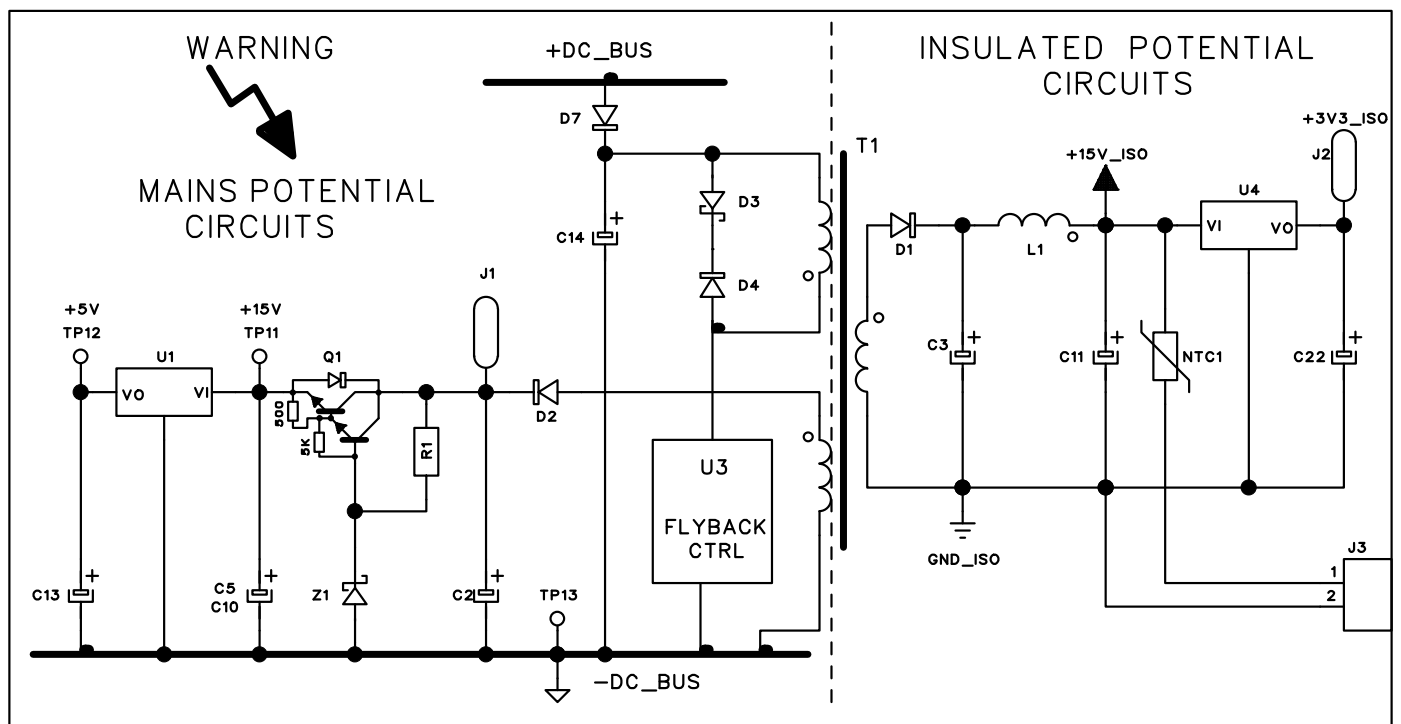

Fig. 2.3.2
These voltages are measurable on the connectors J2, J3 and on the test points J1, TP11, TP12, TP13 on power board (45), as indicated in Fig. 2.3.2.
- ◆ If the voltage remains at +320 Vdc, check the boost converter circuits (U5, U7, Q5, Q6, D11, D12, etc.) and the voltages on TP11 and TP12 of power board (45), as indicated in Fig. 2.3.2 (boost converter power supply circuits).
- ◆ Replace power board (45).
- Power board (45), test points TP11(+), TP12(+) and R32 SHUNT terminal or TP13(-) = voltages as indicated in Fig. 2.3.2 (boost converter circuits power supply).
- Power board (45), connectors J2 and J3 = voltages as indicated in Fig. 2.3.2 (inverter circuits power supply).
- ◆ With the power source off, temporarily disconnect connectors J3 and J7 from power board (45). Power up the power source and repeat the measures on power board (45). If not correct, locate the faulty components, on power board (45), based on the diagram in Fig. 2.3.2 and replace them. If correct search for the anomaly cause in the fan (44) or in the panel board (48).